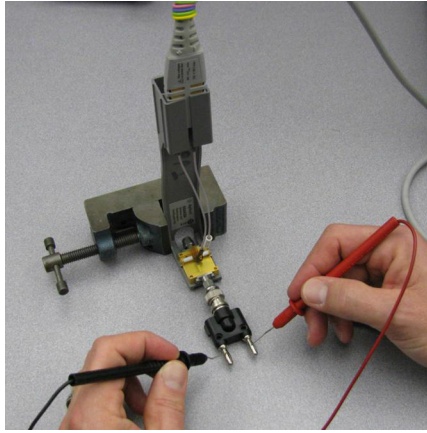

Figure 99 Measuring the Differential Input Resistance of Solder-In Probe Head
Figure 99 shows the correct setup for measuring the differential input resistance for the solder-in probe head.
- 1 Connect the BNC to SMA adapter and BNC to Banana Plug adapters as shown in **Figure 99** on page 136.
- 4 Connect the ZIF or solder-in probe head to the probe amp and insert it into the PV fixture as shown **Figure 99**.
- 6 As shown in **Figure 99**, measure the DC input resistance between the banana plugs. Since one tip wire is connected to the signal line and the other tip is connected to the PV fixture ground, this is a measurement of the differential input resistance. It should be $100\text{ k}\Omega \pm 2\%$ (98 to $102\text{ k}\Omega$).